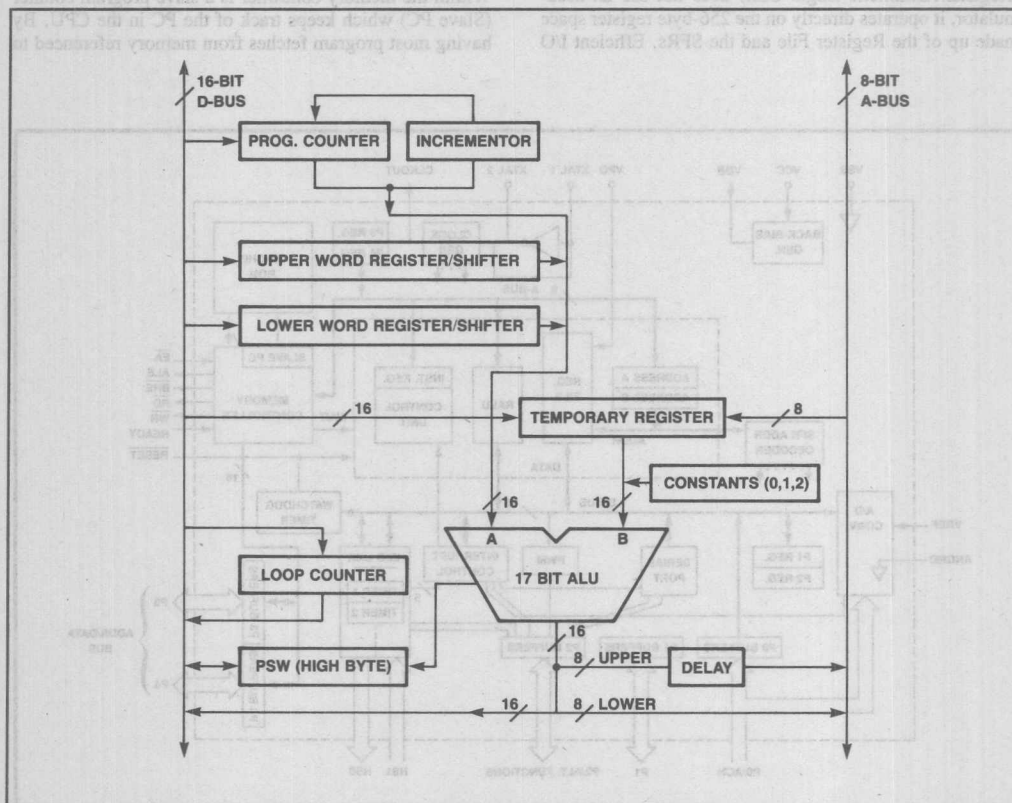

Figure 2-2. RALU Block Diagram
Most calculations performed by the 8096 take place in the RALU. The RALU, shown in Figure 2-2, contains a 17-bit ALU, the Program Status Word (PSW), the Program Counter (PC), a loop counter, and three temporary registers. All of the registers are 16-bits or 17-bits (16 + sign extension) wide. Some of the registers have the ability to perform simple operations to off-load the ALU.
The DELAY shown in Figure 2-2 is used to convert the 16-bit bus into an 8-bit bus. This is required as all addresses and instructions are carried on the 8-bit A bus. Several constants, such as 0, 1 and 2 are stored in the RALU for use in speeding up certain calculations. These come in handy when the RALU needs to make a 2's complement number or perform an increment or decrement instruction.